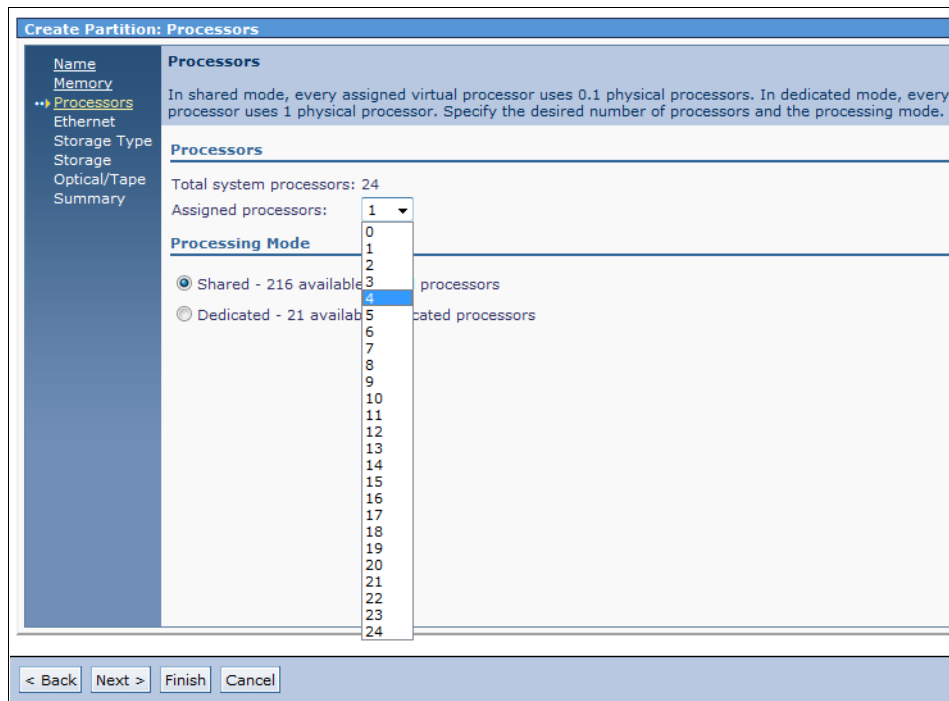

Figure 8-67 IVM Create Partition Processors window.
5. Complete the following steps in the Processors window, as shown in Figure 8-67: